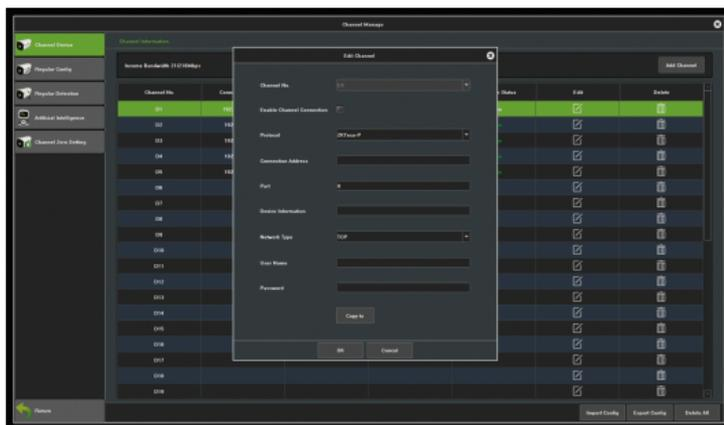

Figure 7.3 Interface of Custom Adding of IP Cameras
- 4) Or, you may edit the parameters in the corresponding text field to add an IP camera, then click on **Save** to add it to the connection list, as shown in Figure 7.3.